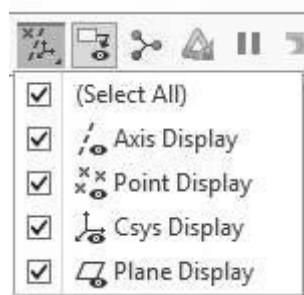

Figure 3-14 Datum Display Control
**Datum Display Filter**—Allows the user to control the display of datum axes, datum points, datum coordinate systems, and datum planes. See Figure 3-14.